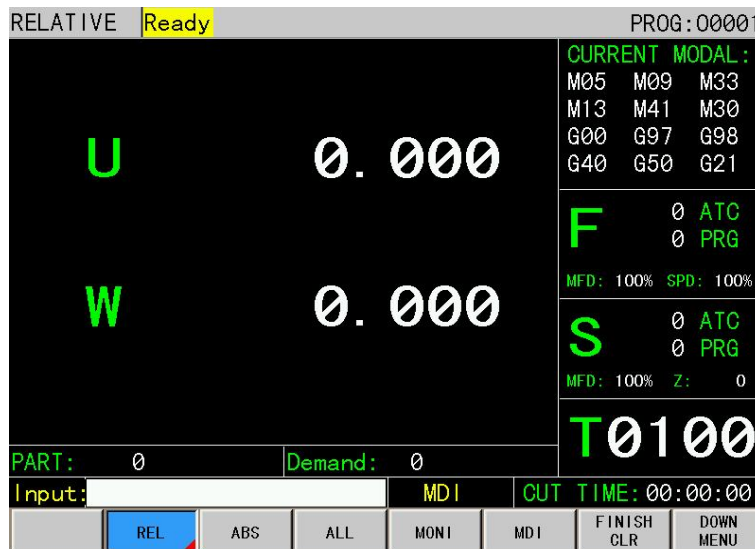

Figure 2-1-1-1
1. Relative mode: Press the (Relative Coordinates) soft key to display the current position of the tool in the current coordinate system, hereinafter referred to as "Relative Coordinates" (See figure 2-1-1-1)